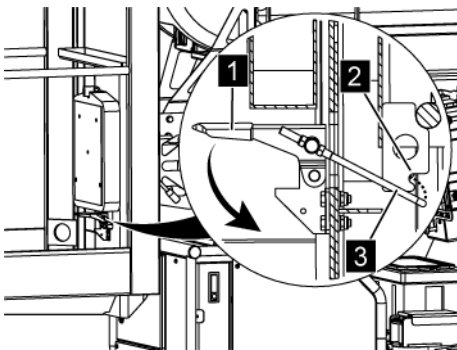

Fig. 160: Tensioning the working basket
6. → Tension the working basket. To do so, insert the shackle (Fig. 160/3) into the bracket (Fig. 160/2) and close the clamp (Fig. 160/1) by pushing it down.